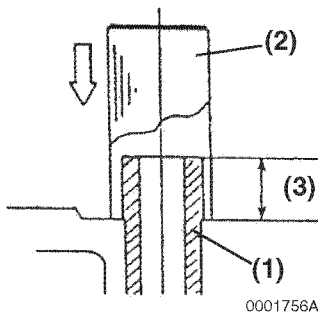

Figure 6-27
3. Finish installing the valve guides (Figure 6-27, (1)) into the cylinder head to the proper height (Figure 6-27, (3)) using the valve guide installation tool (Figure 6-27, (2)). See Valve Guide Projection specification starting on page 6-7.